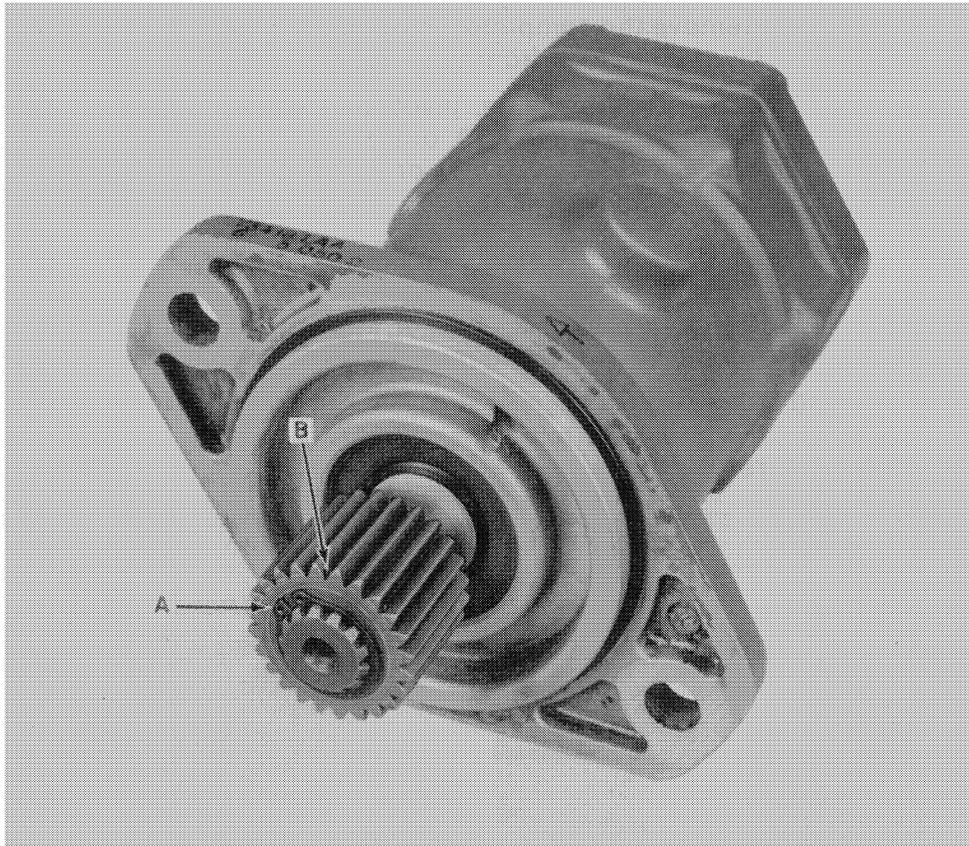

FIGURE 7
2. Remove snap ring, A, Figure 7, and remove gear, B.
10. Install rear snap ring, gear, B, Figure 7, and front snap ring, A, on drive shaft.